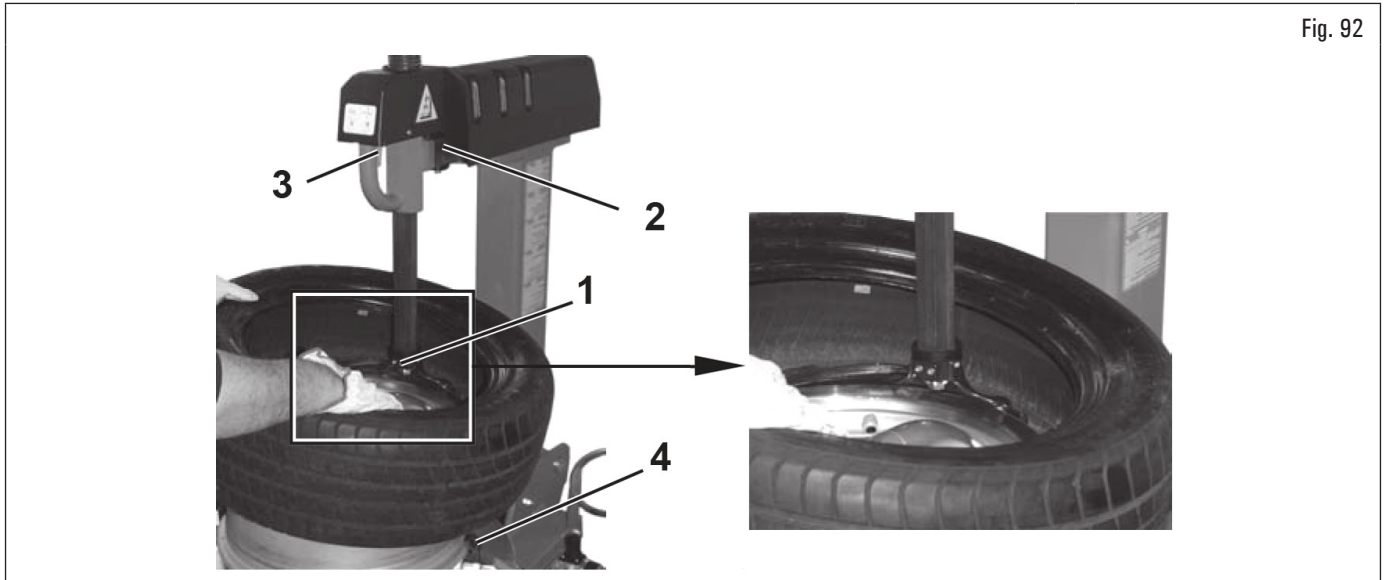

Fig. 92
5. place the toolhead (Fig. 92 ref. 1) against the rim edge and lock arm (Fig. 92 ref. 2);
**i** If tyre is fitted on the wheel previously removed or wheel size corresponds to rim size, it is not necessary to operate handle (Fig. 92 ref. 3) to secure and release the head, only arm (Fig. 92 ref. 2) needs to be repositioned.
6. use Your hands to guide the tyre, so that the bead passes under toolhead nail (Fig. 92 ref. 1) and outside its support lip (see Fig. 92 for lower bead);
7. Turn chuck (Fig. 92 ref. 4) clockwise. Press the corresponding pedal and keeping the tyre bead pressed with Your hands in the inner rim drop centre;